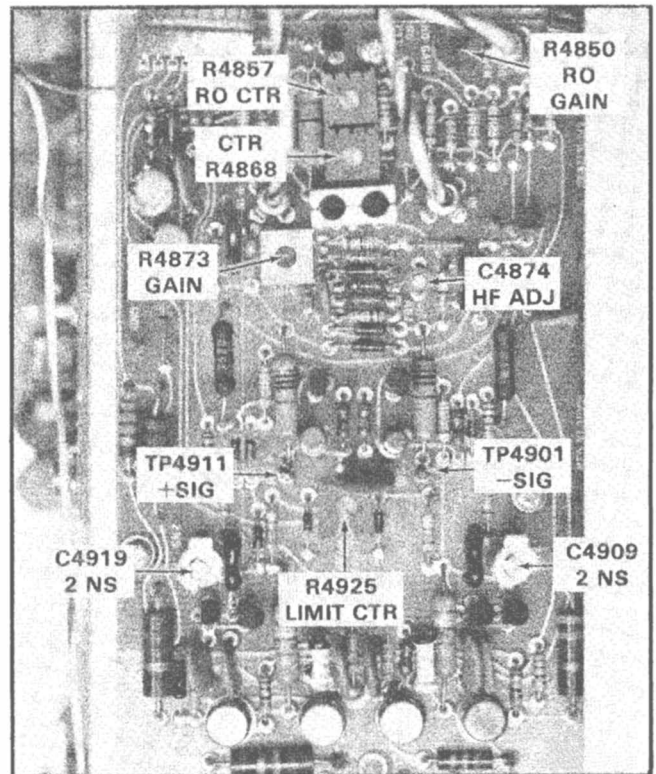

Fig. 5-6. Location of horizontal system adjustments on Main Horizontal Amplifier board.
e. Adjust—Limit Ctr, R4925, to align the displayed trace with the center vertical graticule line. See Fig. 5-6 for adjustment location.
- b. Adjust—Ctr, R4868, to align the displayed trace with the center vertical graticule line, See Fig. 5-6 for adjustment location.
- e. Adjust—RO Ctr, R4857, to horizontally center the readout display within the limits of the graticule area. See Fig. 5-6 for adjustment location.
- f. Adjust—RO Gain, R4850, so all the characters are displayed within the limits of the graticule area. See Fig. 5-6 for adjustment location.
i. Adjust—2 NS, C4904 and C4919, equally for one cycle each division over the center eight divisions. See Fig. 5-6 for adjustment location.